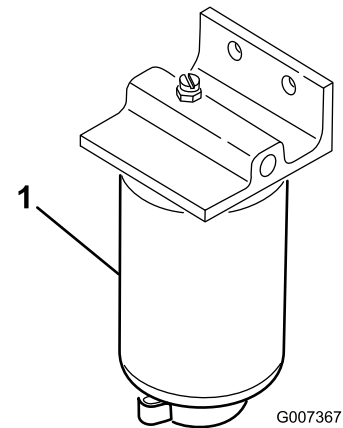

Figure 78
1. Place a clean container under the fuel filter(Figure 78).